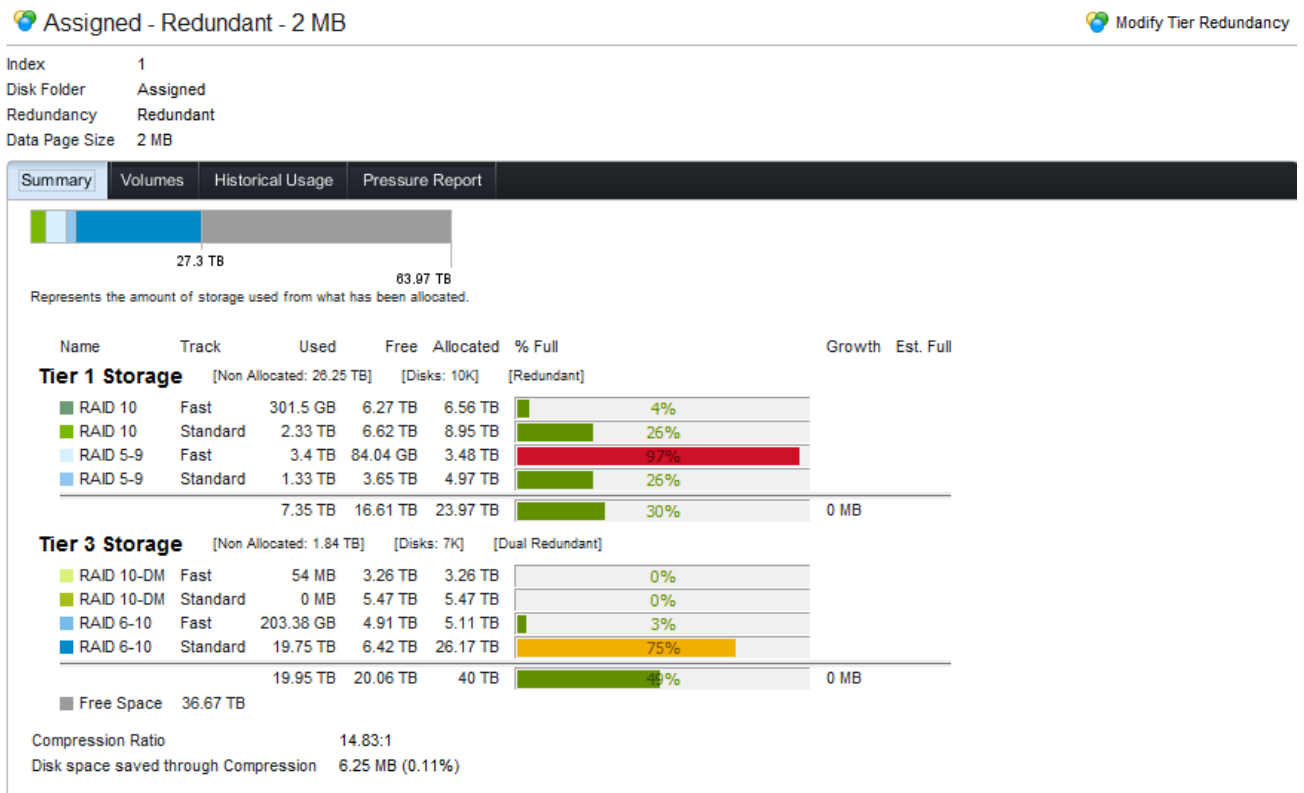

Figure 18 Multiple storage tiers
**Data Progression (DP)** is a Dell Fluid Data™ storage or automated tiered storage feature that automatically migrates data to the optimal storage tier based on a set of predefined or custom policies called storage profiles. Data Progression eliminates the need to manually classify and migrate data to different storage tiers while reducing the number and cost of drives and reducing the cooling and power costs.
**Fast Track** technology enhances automated tiered storage by dynamically placing the most frequently accessed data on the fastest, or outer, tracks of each hard disk drive. Fast Track does not require any manual configuration and it is licensed separately. To see how RAID groups of a storage tier are allocated between standard and fast tracks, see the **Track** column in Figure 18. A value of **Fast** indicates that Fast Track is being used within the RAID group. If Fast Track is licensed, it is enabled by default and will be utilized behind the scenes. No manual configuration is required.